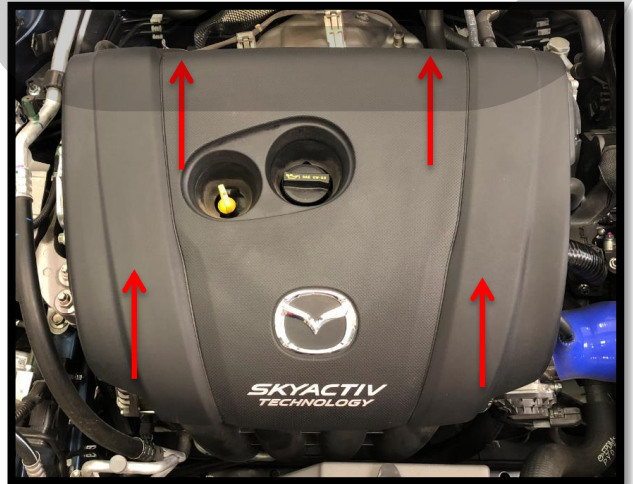

Figure 2a
- a) Begin by removing the engine cover. Pull straight upwards and it will pop free from its rubber mounts. Shown in **Figure 2a**.